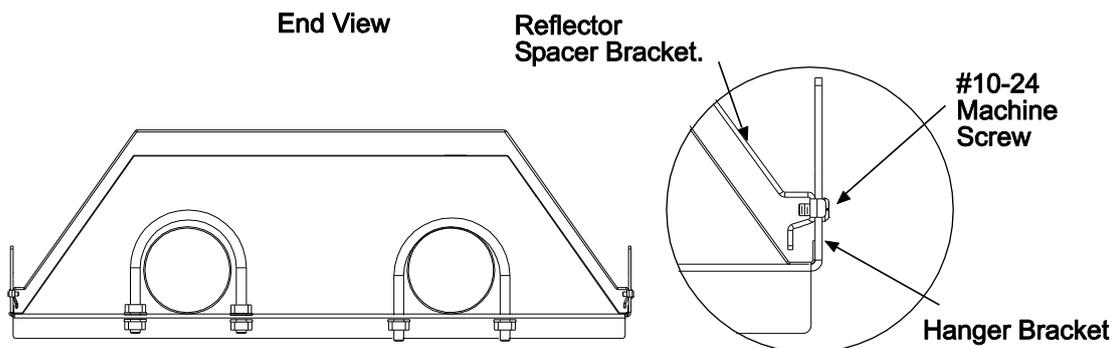

Fig. 21l
11. Attach the **reflector spacer brackets** at each tube support/hanger bracket. using the #10-24 machine screws supplied in fastening kit. See figure 21l below: